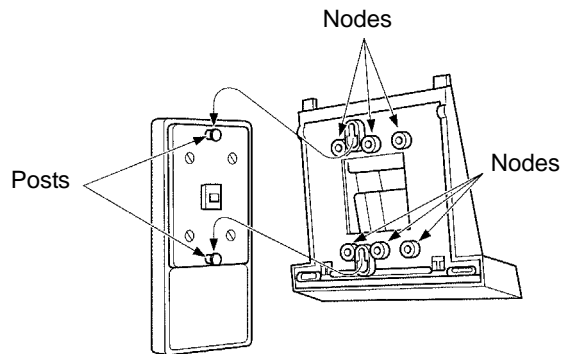

Figure 6-18: Attaching the Base Plate to the Wall
6. As illustrated in *Figure 6-18: Attaching the Base Plate to the Wall*, attach the base plate and base cover assembly (wide end down) to the posts on the locally provided and installed wall plate. Place locally provided screws in the nodes on the base plate and secure the assembly to the wall.